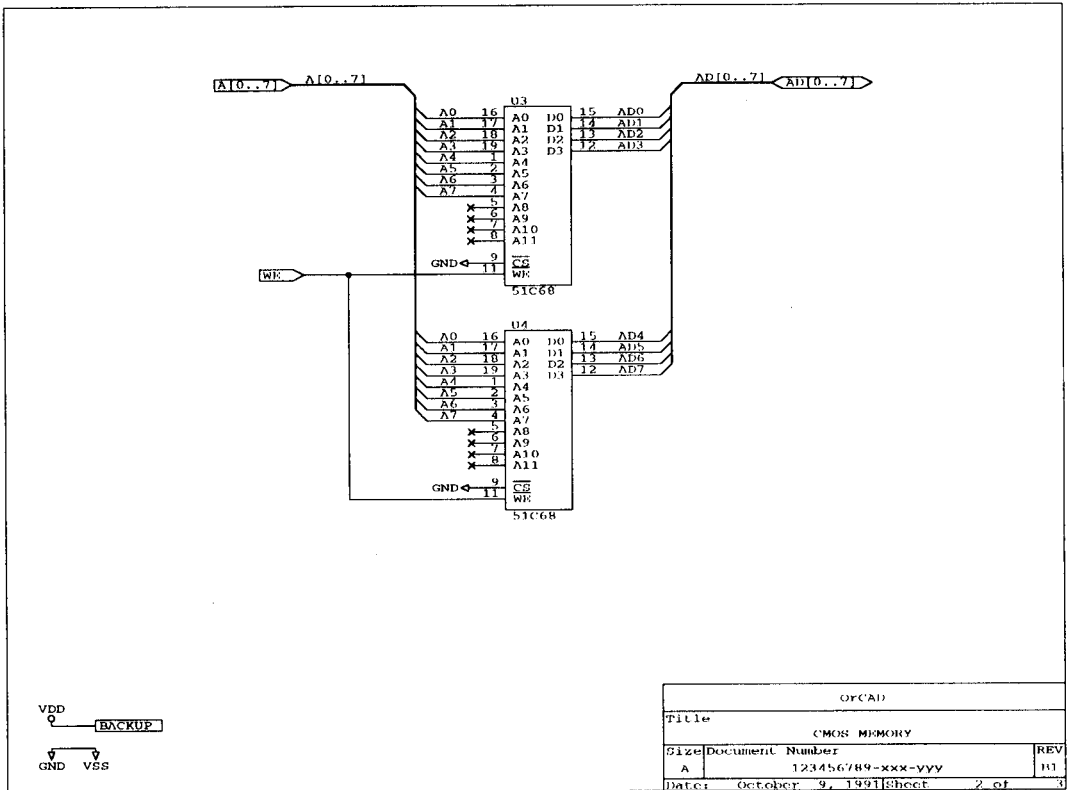

Figure 8-4. CMOS MEMORY worksheet.
2. Place the pointer inside the CMOS MEMORY sheet symbol and select Enter. Draft displays the CMOS MEMORY worksheet (figure 8-4).
The BACKUP module port makes the *electrical* connection to the BACKUP module port on the CMOS MEMORY worksheet (see figure 8-4).